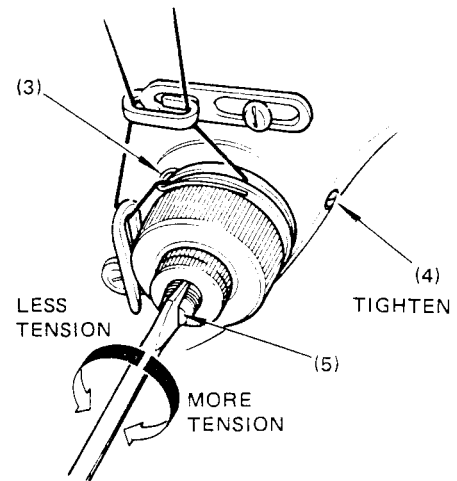

Fig. 8
Thread the machine. Securely tighten set screw (4), Fig. 8. Make certain thumb nut is on stud (5), Fig. 8.
Tension on check spring (3), Fig. 8, should be sufficient to ensure action at top speed; but still light enough to permit itself to be drawn all the way down (as take-up lever approaches height of stroke) before any thread is drawn through the tension discs.
Using a large screwdriver in slot of stud (5), turn stud either over toward left to decrease tension or over toward right to increase it, as shown in Fig. 8.